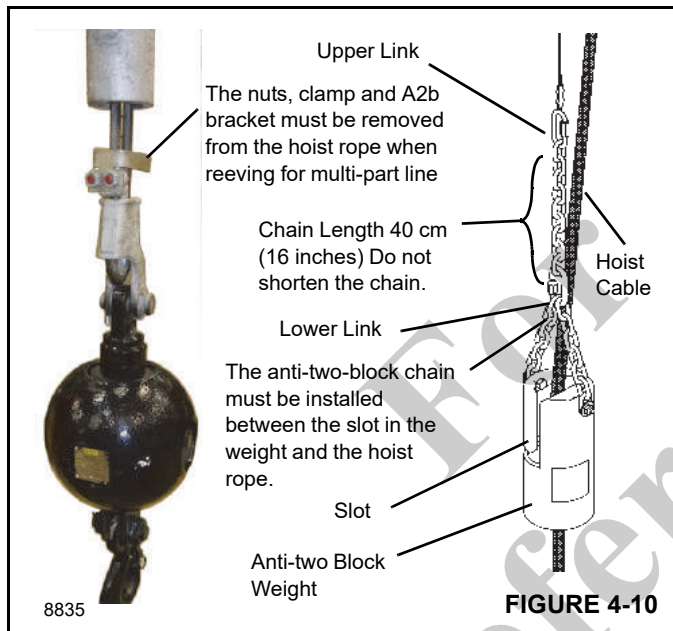

FIGURE 4-10
To prevent the hoist rope from slipping out of the A2B weight, rig the weight as shown in Figure 4-10.
**NOTE:** The nuts, clamp and A2B bracket must be removed from the hoist rope in order to reeve the hoist rope through the hook block and boom nose sheaves when reeving for multi-part lines as shown in Figure 4-10. Install the clamp and nuts to the rope before performing a lift.
**NOTE:** The A2B bracket is for single part line use only. Remove the A2B bracket shown in Figure 4-10 from the hoist rope when changing from a single part line to a multiple part line to allow the hoist rope and wedge socket to reeve through the